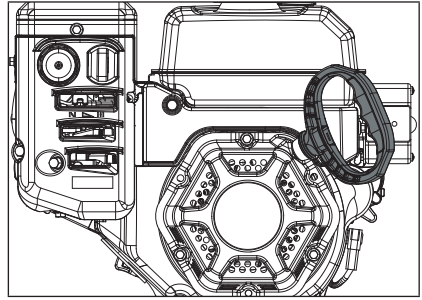

Figure 22
- Stand back and to the right of the unit, pull the starter grip lightly until you feel resistance then pull briskly. Return the starter grip gently. (Fig. 22)